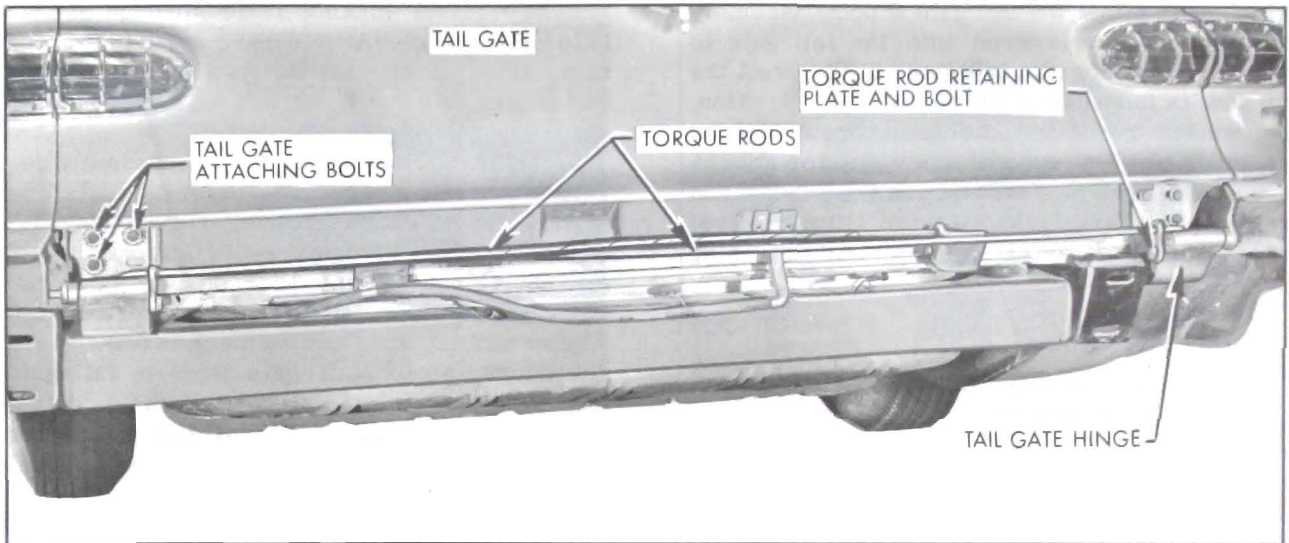

Figure 4-17—Tail Gate and Torque Rod Attachment
6. Open the tail gate about 12 inches. The torque rods are now in a neutral position. Remove the torque rods while a helper steadies the tail gate. The torque rods are held in position by the small plate and bolt shown in Figure 4-17.
7. Close the tail gate and remove the bolts attaching the hinges to the gate. (Figure 4-17)
2. Remove torque rod side retainer at each tail gate hinge (Figure 4-17) and remove torque rod from body.